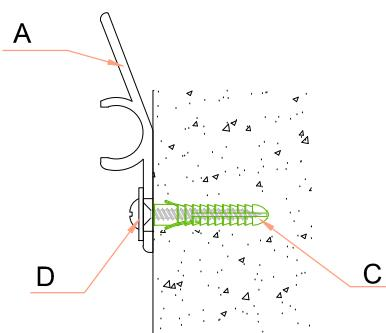

FIGURE 2
- Preset the mirror on your desired location, and mark the location with a light pencil mark. Use tape or pencil to transcribe the location of the back mirror's pre-installed bracket to the wall. Below this marking is where you will install the included metal wall-mount bracket. See FIGURE 2.
- Hold the bracket against the wall and mark with pencil the locations of the bracket screw holes, ensuring levelness. See FIGURE 2